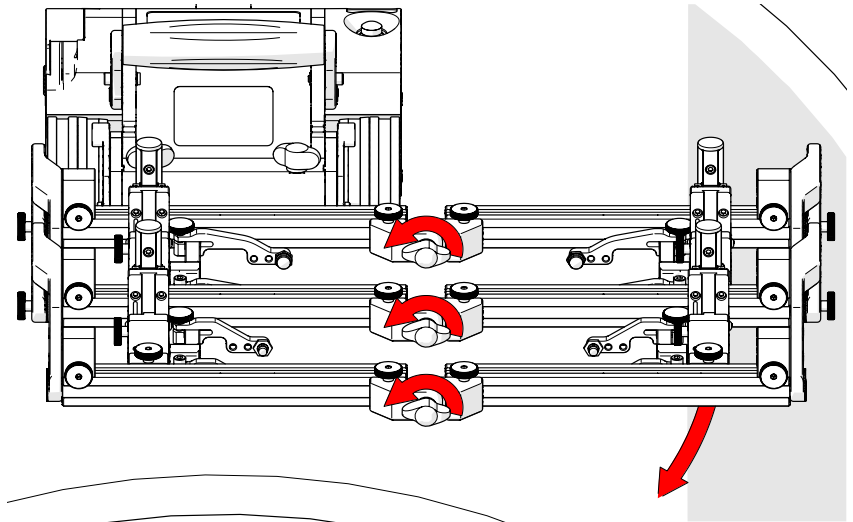

Fig. 189 - Loosen pivot wing knobs
1. Loosen the pivot wing knobs at the centre of the frame system (Fig. 189). Lower the left side of the frame system to align with the tangent of the scan surface. Tighten the pivot wing knobs.